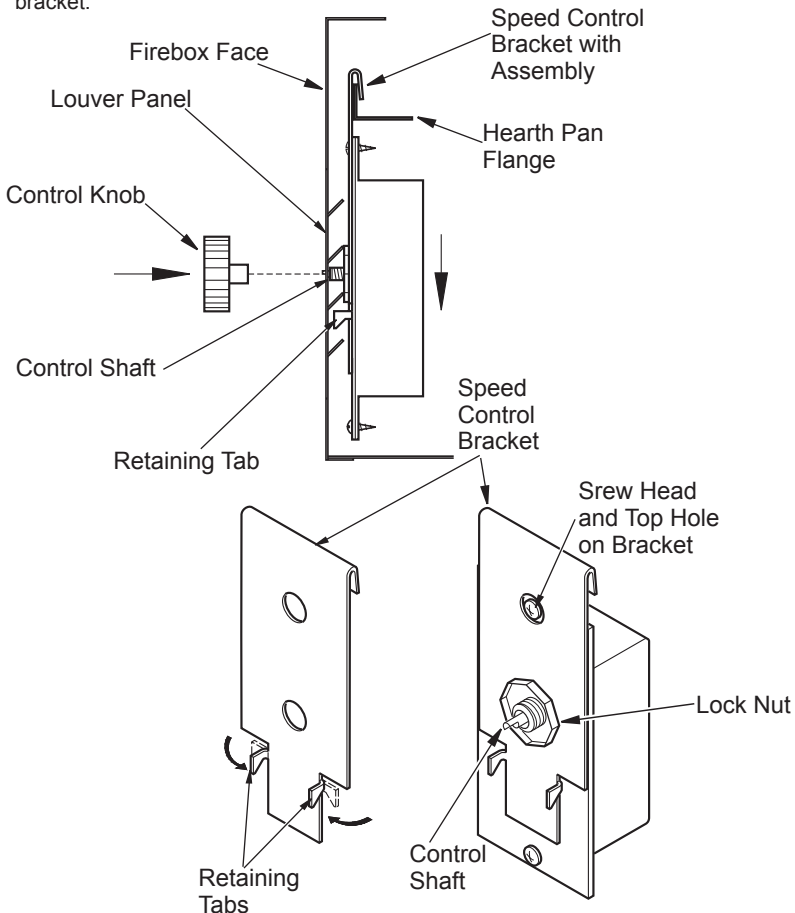

Figure 9: Attaching Speed Control to Firebox with Stamp Faced Louvers (B36 and VB36 Models) Using Speed Control Bracket 109892-01
1. Using pliers, bend two retaining tabs on speed control bracket 90 degrees to front of bracket (see Figure 9).
2. Mount speed control box by placing plastic control shaft through bottom hole on speed control bracket. Top screw head on control box will fit inside top hole on bracket (see Figure 9). Secure speed control to bracket with lock nut by pushing and turning lock nut with pliers clockwise until it is tight against bracket.
4. Position speed control assembly over flange on hearth pan by sliding bracket up between the face and flange, then down until the control shaft is aligned with the opening in the louver panel (see Figure 9).
5. Lock two retaining tabs onto lower louver by pressing down on bracket assembly while sliding control knob through rectangular opening on louver and onto the control shaft (see Figure 9).